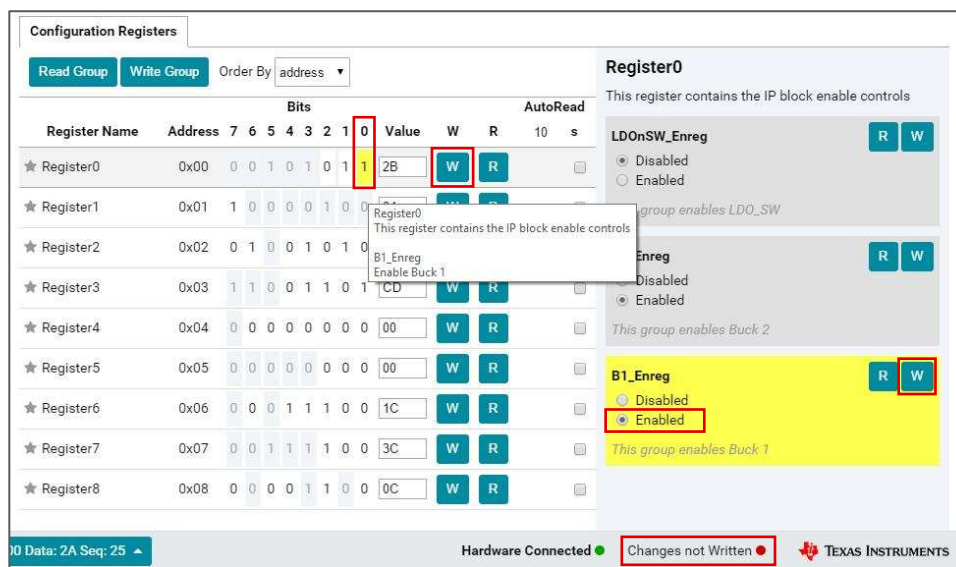

Figure 7. Enabling BUCK1 (B1_Enreg) in IPG-UI
- Change the **B1_Enreg** position from *Disabled* to *Enabled* while the red voltage lead of the DMM is still on J7 (B1_VOUT), and then click the **W** button in the **Register0** row to write new values to only this register. Figure 7 shows that bit 0 now has a value of 1b, **B1_Enreg** is *Enabled*, and that until the **W** button is clicked the changes made have not yet been written to the TPS65291 device.